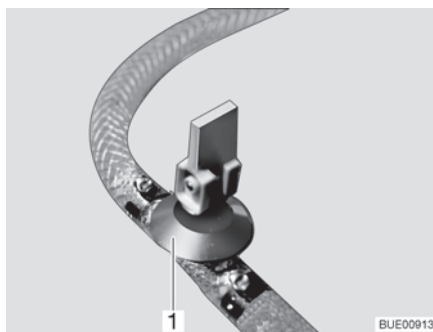

Fig. 169 Drain cock (with rocking lever)
- Open all drain cocks. In order to do this, position the rocking lever of the drain cock (Fig. 169,1) vertically.